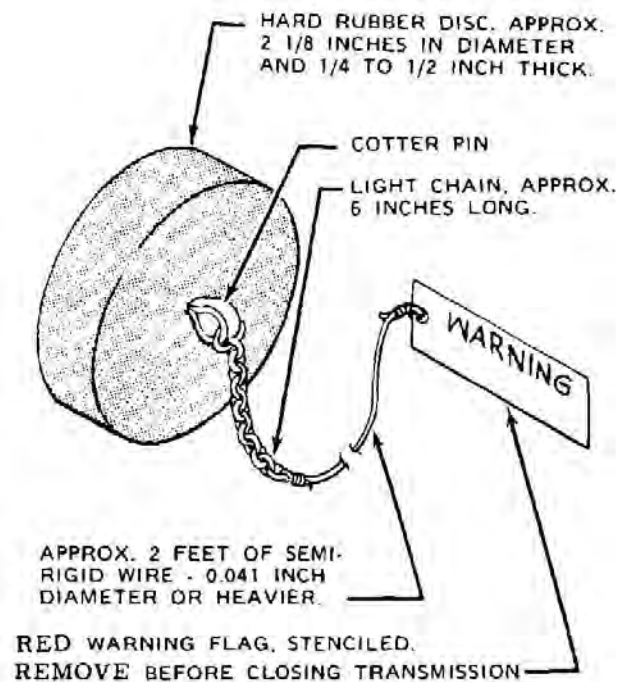

Figure 63-43. Input Drive Quill Work Aid
63.7.3.2.3 Cut a rubber plug (1/4 to 1/2 inch thick) slightly larger than the diameter of the roller bearing inner race on the inboard end of the input pinion gear (8). Insert a cotter pin through center of rubber plug and through a washer. Bend ends of cotter pin back against washer and plug. Attach a piece of light chain, or 1/8 inch nylon cord, approximately two feet long, to the eye of the cotter pin. (Refer to Figure 63-43).